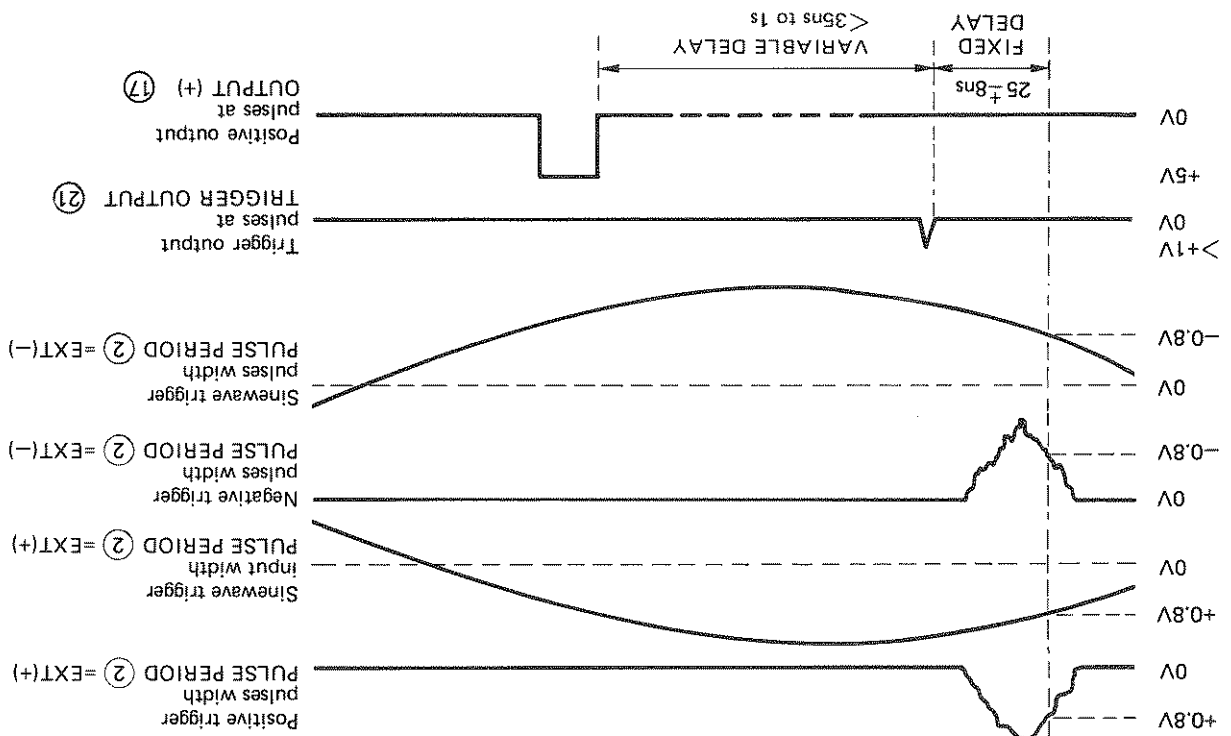

Figure 3-8. Output pulses in normal external trigger mode
- 3-21 The output pulses should appear at the TRIGGER OUTPUT (+) (17) and OUTPUT (+) (21) connectors as shown in Figure 3-8, according to the applied trigger and the setting of the PULSE PERIOD control (2) (either EXT+ or EXT-).